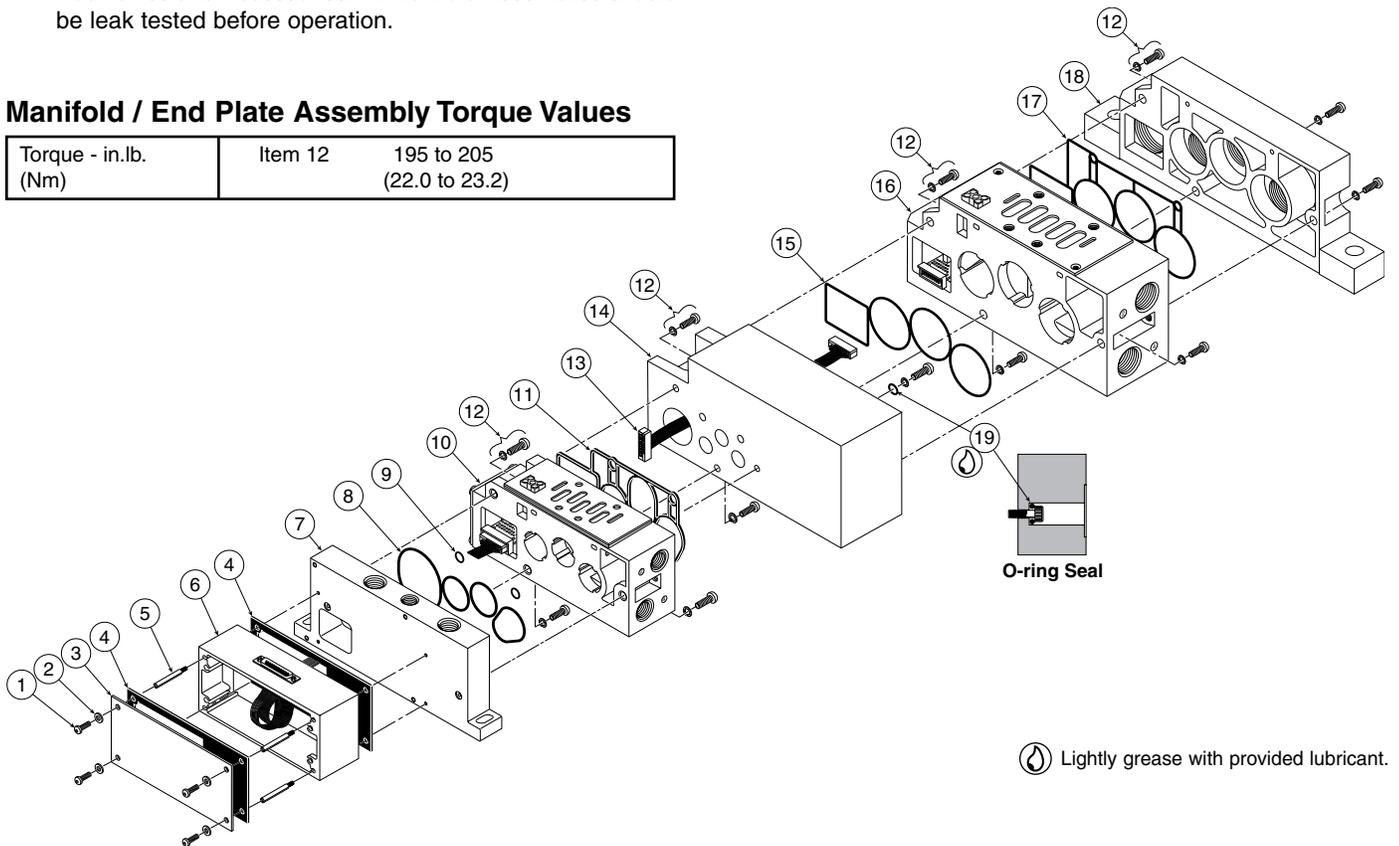

Figure 8 (H2 to H3 Transition Assembly)
**H2 to H3 Manifold Assembly (See Figure 8)**